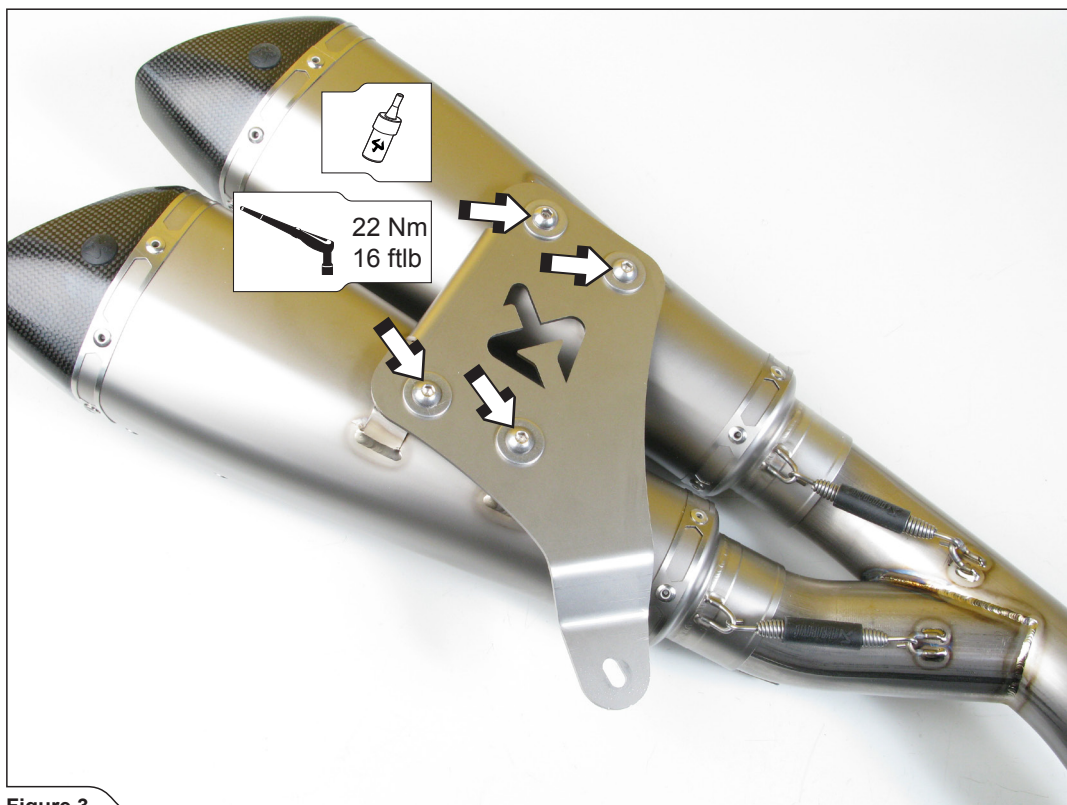

Figure 3
- Align the mufflers and screw the mufflers' bracket on, using M8x12mm bolts and washers from installation kit (**Figure 3**).